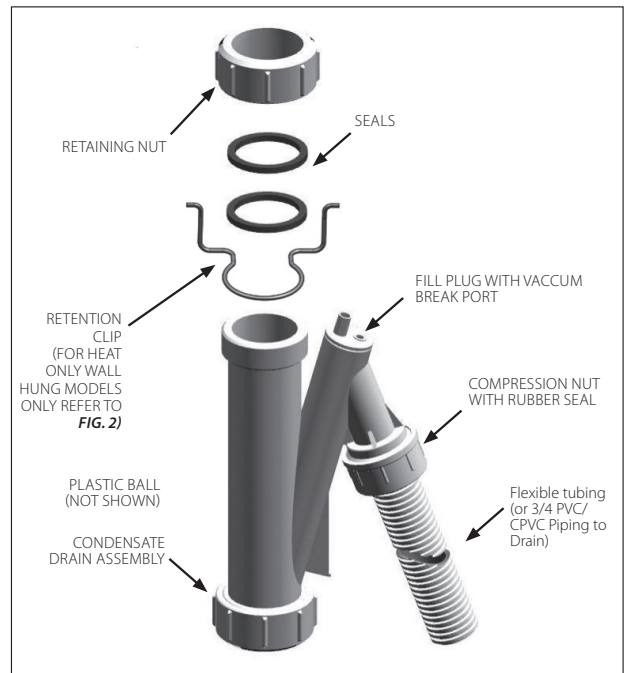
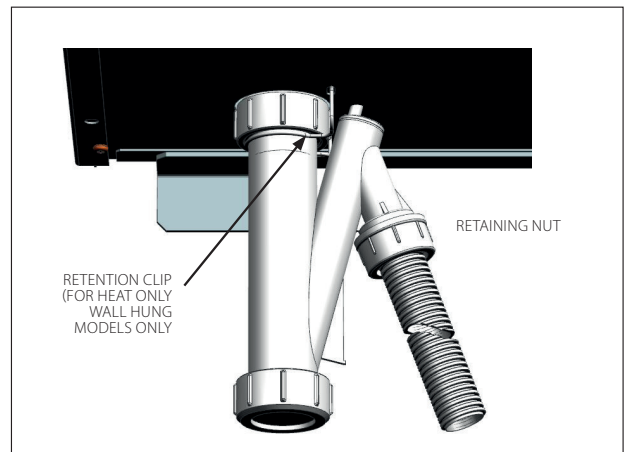

Fig. 1 - Condensate Drain Assembly
Fig. 2 - Condensate Retention Clip -
1. Ensure condensate drain assembly is firmly secured to bottom of the unit. See Fig. 1 on the right. Ensure the retention clip is secure. See Fig. 2 (Heat Only Models only).